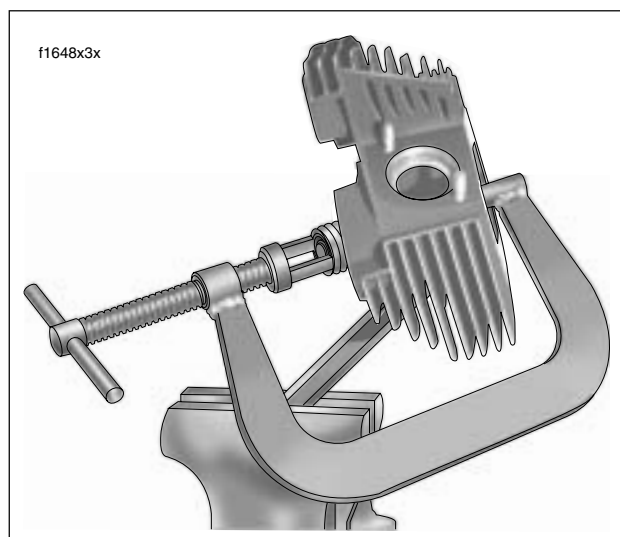

Figure 3-66. Compress Valve Springs
- Place tool over cylinder head so that the blunt end is centered on the valve head and adapter at end of forcing screw is seated on the valve spring retainer. See Figure 3-66.